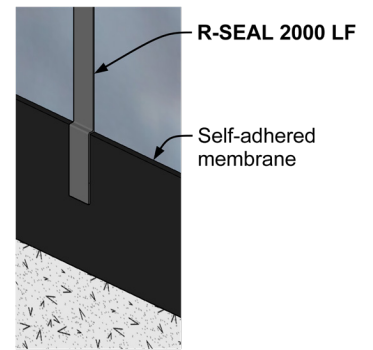
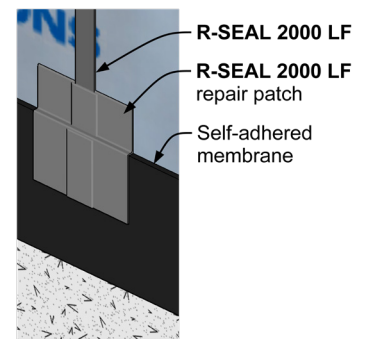

Figure 5
Figure 6
NOTE: In areas where R-SEAL 2000 LF and R-SEAL 6000 overlap, always apply the R-SEAL 6000 first. **Reference Figure 5.**
I. **Intersection with Membranes:** When R-SEAL 2000 LF and membranes over-lap, apply the membrane first. **Reference Figure 5.** When this is not possible and the membrane is applied over the liquid flashing, cover the intersection with a liquid flashing patch. The patch must extend 2" into each surface. **Reference Figure 6.**
NOTE: In areas where R-SEAL 6000 and R-SEAL 2000 LF overlap, always apply R-SEAL 6000 first. **Reference Figure 5.**